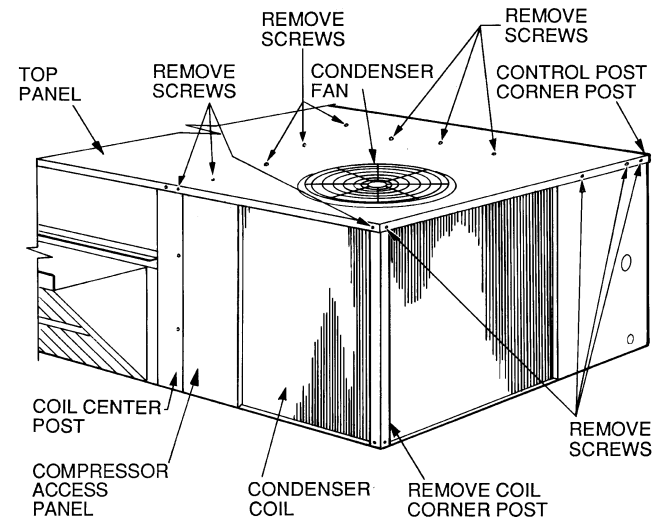
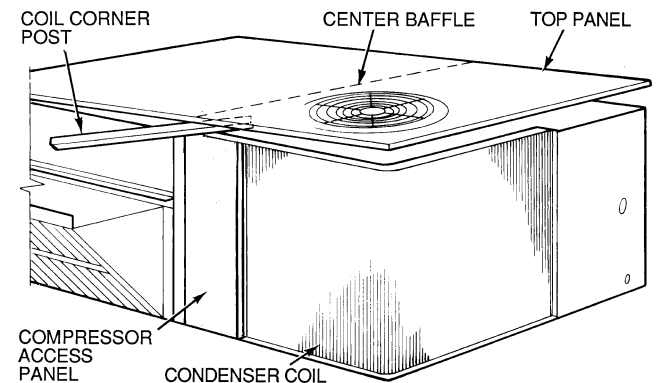

Fig. 40 — Cleaning Condenser Coil
Fig. 41 — Propping Up Top Panel
3. Remove condenser coil corner post. See Fig. 40. To hold top panel open, place coil corner post between top panel and center post. See Fig. 41.